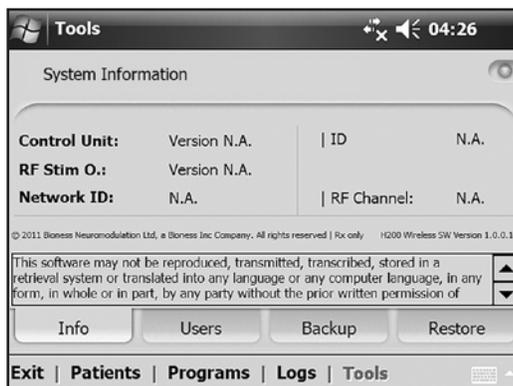

Figure 8-41: System Information window.
2. From the **Tools** menu, press the **Info** tab. See Figure 8-41.